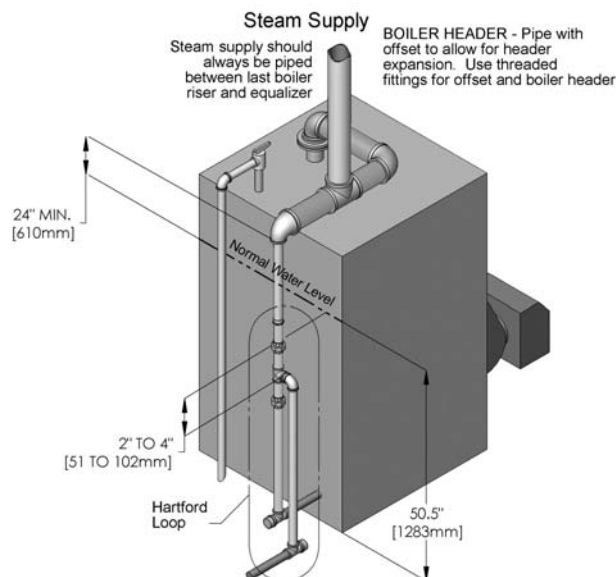

Figure 3.1: Typical piping arrangement for boilers with one riser.
2. Piping for steam boilers is shown in Figure 3.1, 3.2, and 3.3. Table 3.1 contains a pipe size schedule for steam boilers.
- b) See Figure 3.1 for a typical piping arrangement for boilers with one riser. (TC-04 & TC-05)
4. A Hartford loop, as shown in Figures 3.1, 3.2 and 3.3 is recommended in all steam boiler installations. The loop prevents the boiler from being drained completely due to a leak in a return line.